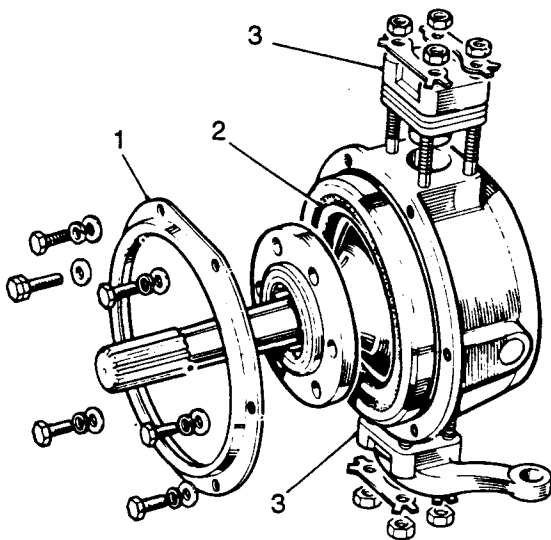

Fig J1.49
- (1) Refer to Fig J1.49. Remove the oil seal retainer (1).
- (2) Prise out the bearing housing oil seal (2).
- (3) Remove the upper and lower swivels (3).